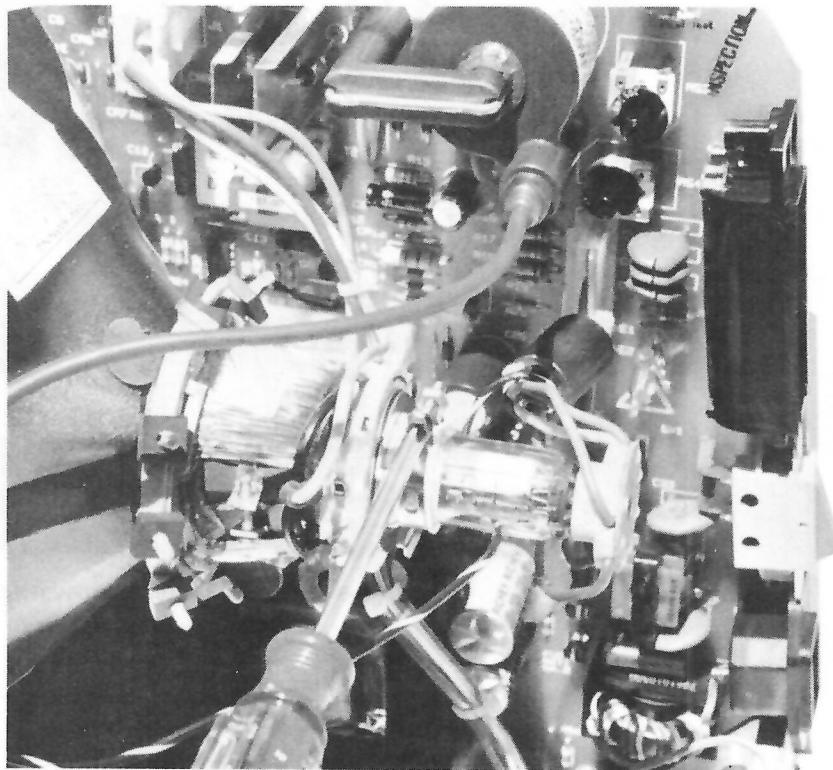

Figure 9-2 Yoke retaining screw—removal details.
8. As shown in Figure 9-2, loosen the yoke retaining screw with a #1 Phillips-head screwdriver. Alternately, you can use an  $\frac{1}{8}$ -inch screwdriver or a  $\frac{5}{32}$ -inch screwdriver. Pick one with a 4-inch shaft.